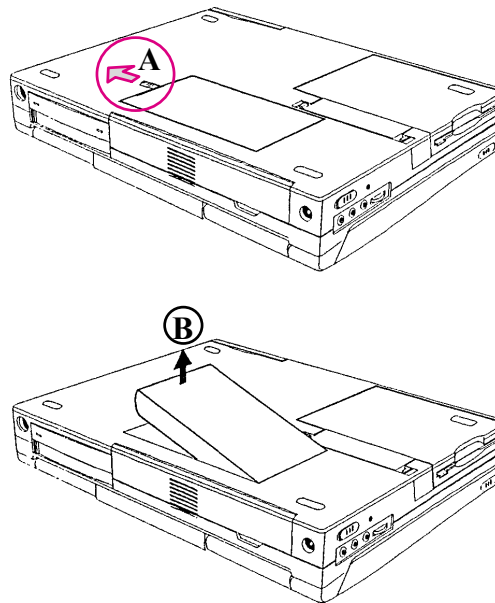

FIGURE 4-1
2. RELEASE THE SAETY CATCHE BY SLIDING IT AWAY FROM THE BATTERY PACK (FIGURE 4-1 A) AND THEN LIFT THE BATTERY PACK (FIGURE 4-1 B).